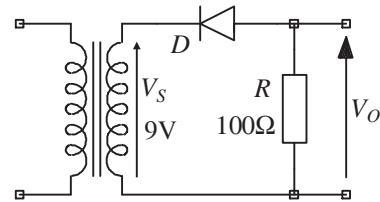

Figure 1
- Q1** In the half wave rectifier circuit of figure 1 both the diode and the transformer are ideal (ie, D conducts with zero voltage drop for forward bias and is an infinite resistance for reverse bias and the transformer has zero series resistance).
- Q2** What value of smoothing capacitor is required across the 100Ω load of figure 1 in order to achieve a ripple voltage of 0.3V peak to peak? What assumptions have been made in order to arrive at an answer? Estimate the power dissipated in the 100Ω load with this value of C connected. Assume that transformer and diode are ideal. (8500mF, 1.58W)